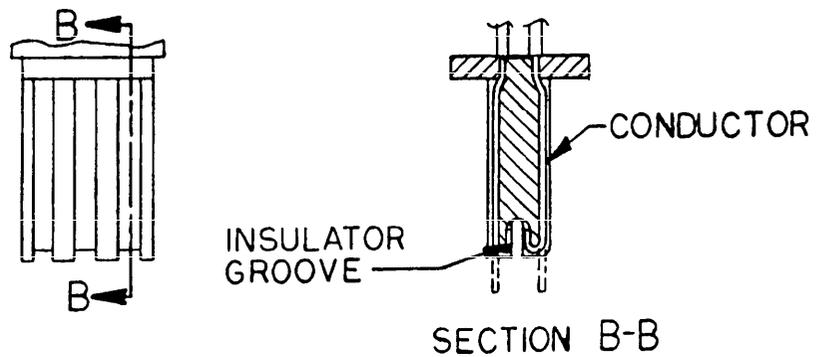

FIGURE 4. Conductor forming.
- D. Using a tool to hold the bare conductors in the respective slots of the conductor spacer, bend conductors of one cable at right angle and then into the insulator groove. See Figure 4 (Conductor Forming). Repeat bending operation for conductors of other cable.